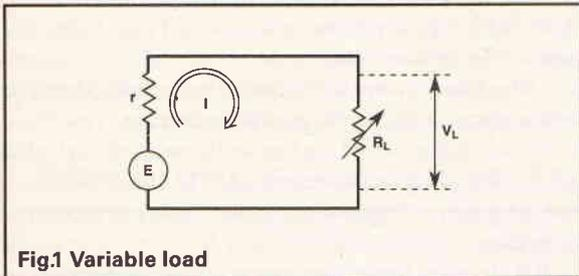
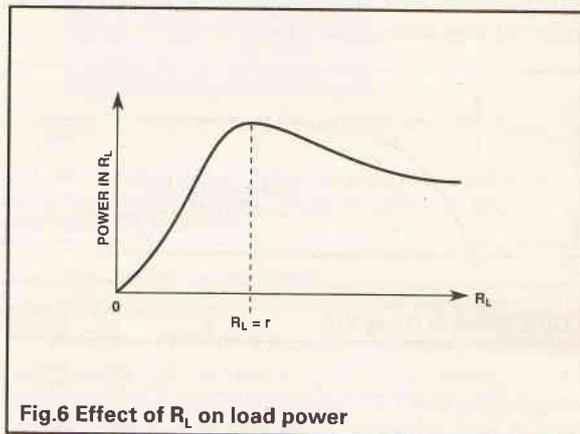

Fig.1 Variable load
Fig.6 Effect of R_L on load power
Figure 1 shows an EMF (E) with source resistance (r) connected across a variable external load (R_L). The current flowing causes a voltage drop across the source resistance so the voltage across the load is less than the source EMF. Varying the load resistance will always vary the voltage across it but, providing the resistance is not allowed to fall below a certain limit, the variation can be negligible. This leads to the following definition:
In virtually all respects, this is the mirror image of the constant voltage source. The circuit and the symbolism of Figure 1 can still be used but the definition and the conditions are completely different.
The rigid proof of the law requires a little calculus but the following intuitive approach based on Figure 1 and the graph of Figure 6 sacrifices rigidity in return for simplicity:
The graph in Figure 6 shows how the load power varies as the load resistance is varied. If the load resistor